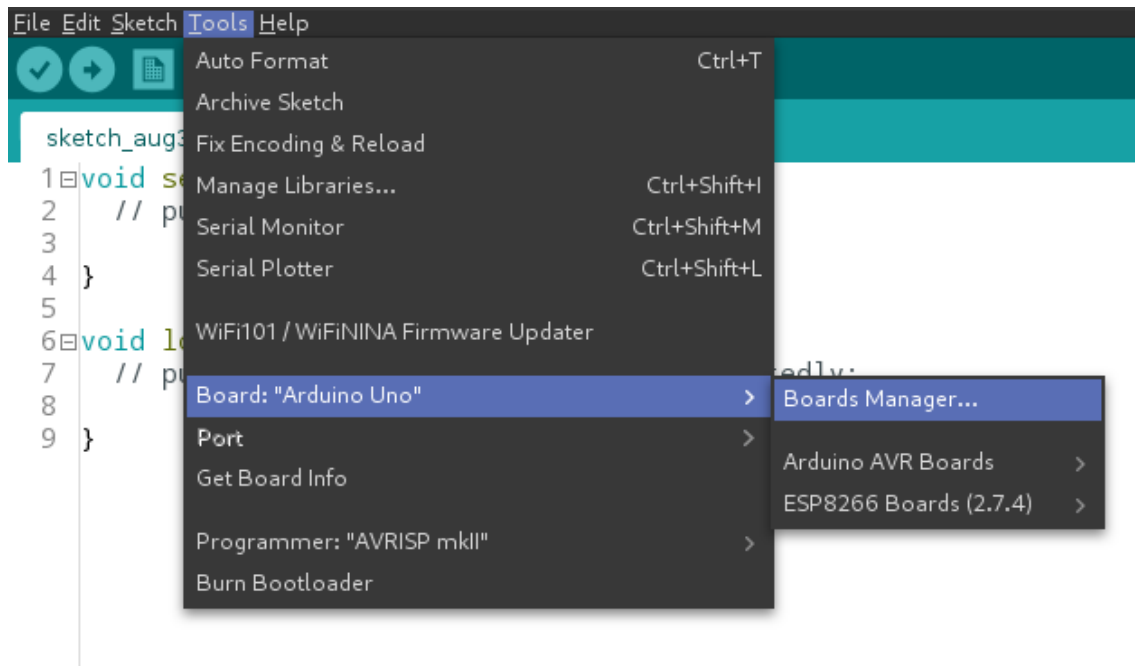

Figure 10x. Access to boards manager
- Close the opened preferences window. Next step is to install the necessary packages. To do so (see Fig. 10x.): Tools -> Board:"..." -> Boards Manager...